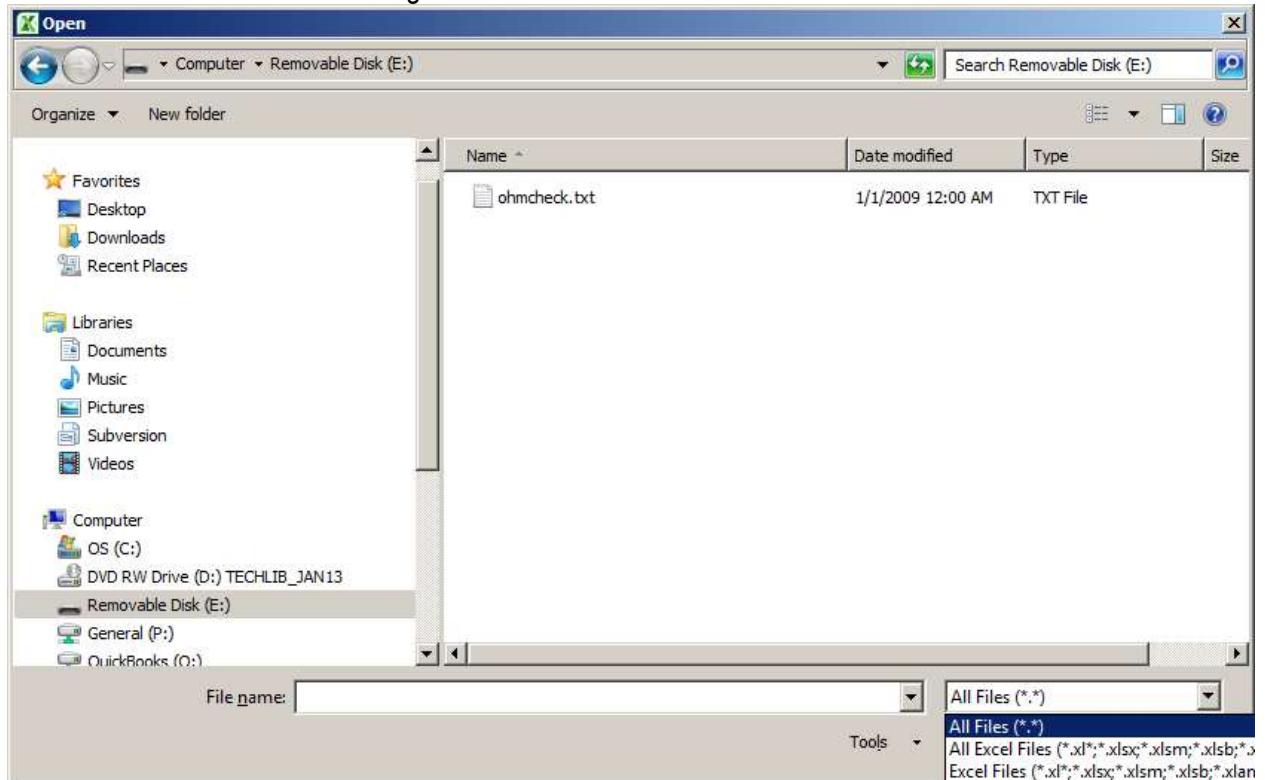

Figure 6
3. Select down-arrow in righthand dropbox and select 'All files (\*.\*)'. Ohmcheck.txt should appear in file window as shown in Fig6. below.